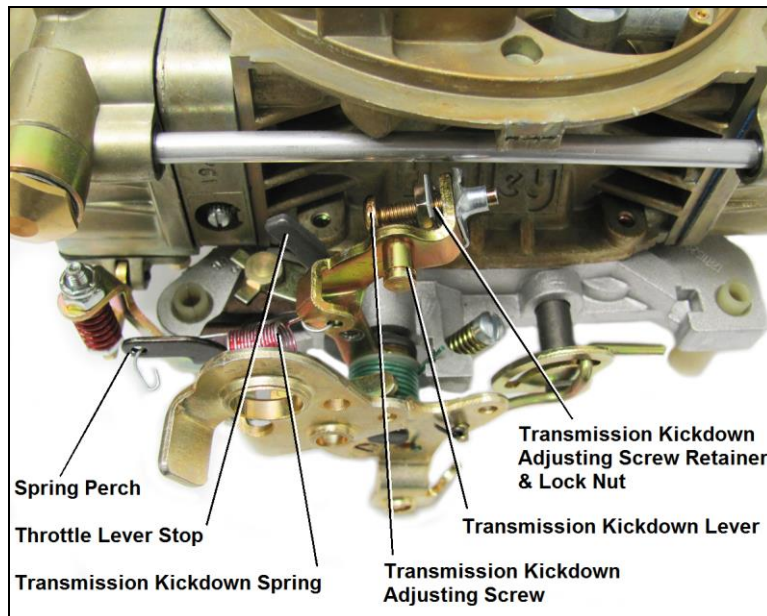

Figure 2—Ford applications
2. Insert the transmission kickdown screw and lock nut with the retaining clip on the transmission kickdown lever (Figure 2).
4. Install the transmission kickdown spring between the transmission kickdown lever and spring perch (Figure 2).